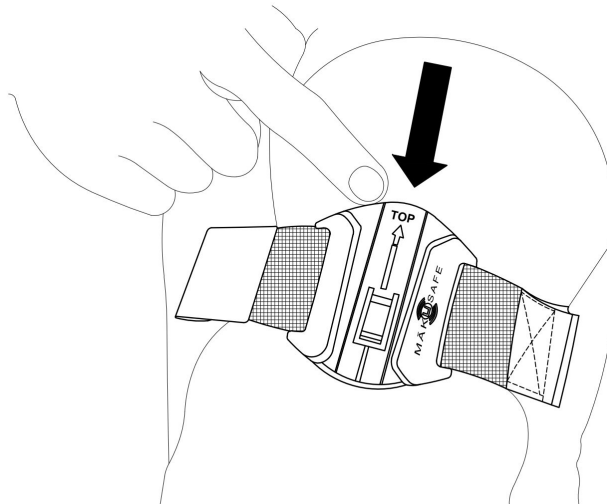

Figure 4
2. Slide the armband over your hand, over your clothing, and up to the upper part of your arm (above the bicep) positioning the holster so it is angled towards the outside of your arm with the arrow pointing up. (Figure 4)